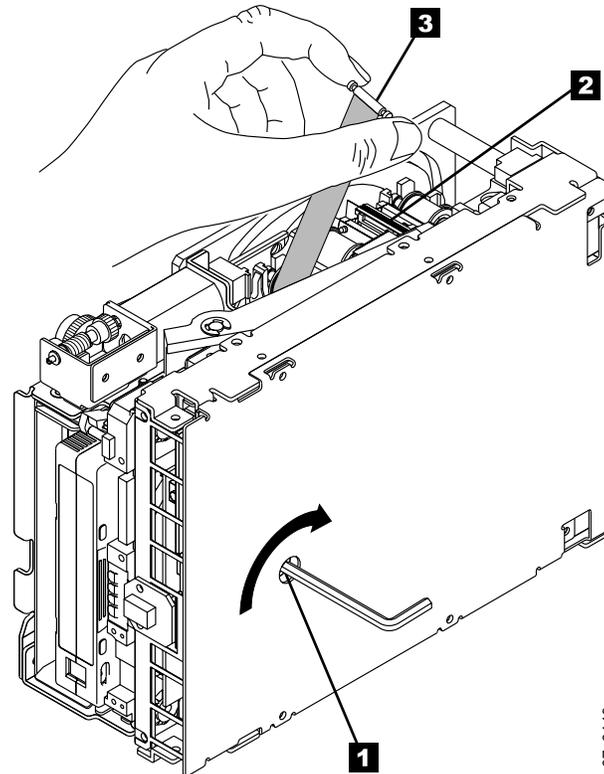

Figure B-5. Rewinding the leader pin into the tape cartridge
4. Place the tape drive so that the front faces you, then tilt it on its left side (see Figure B-5).
5. At the bottom of the drive, locate the access hole ( **1** in Figure B-5).
7. With clean needle-nose pliers, grasp the end of the leader pin and pull it out of the cartridge so that you can grip it with your fingers (see **3** in Figure B-5).